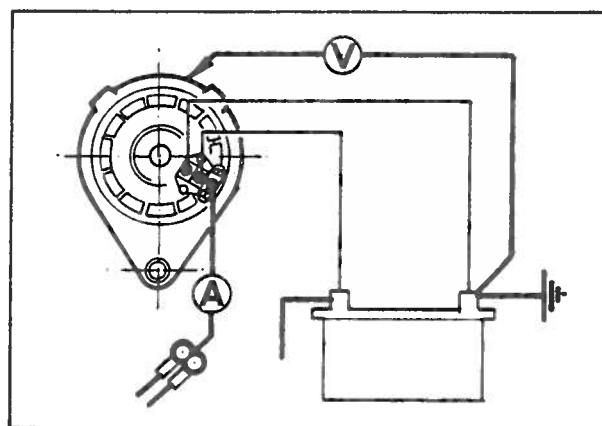

Fig. 15—Charging Circuit
8. Now transfer the meter connections to the alternator frame and battery earth terminal, Fig. 15 and again note the reading.